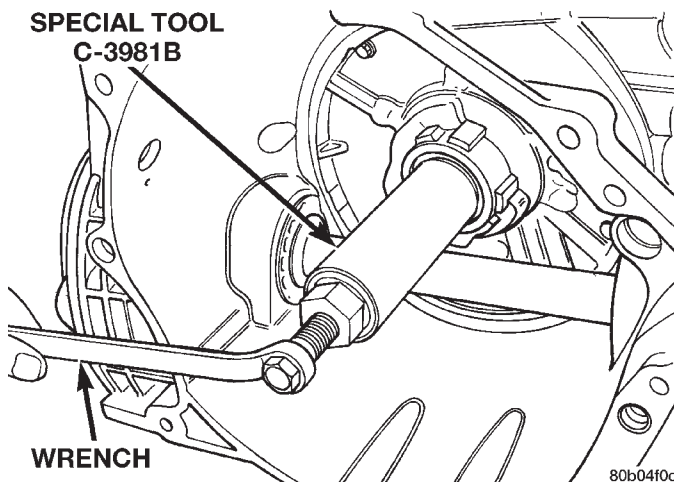

Fig. 45 Oil Seal Removal
(1) Remove the transaxle from the vehicle.
(2) Remove the torque converter from the transaxle bellhousing.
(3) Use special tool C-3981B to remove oil pump seal (Fig. 45).